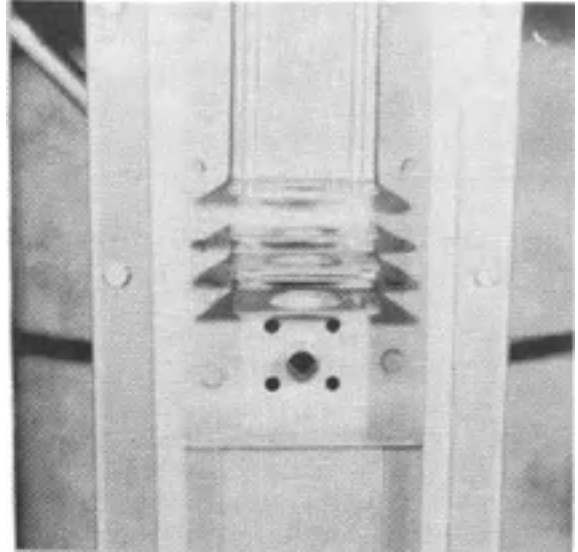

FIG.27
12. Remove the three (3) nuts securing rear block to top of fryer. Remove defective rear block.
14. Apply silicone sealant to entire base of new rear block and mount on fryer. Place lock washers on bolts and tighten the three (3) nuts securing rear block to fryer.
16. Place vent assembly on rear of fryer noting position of vent tube. Adjust vent tube **WITHOUT BENDING** matching end of tube with hole in vent assembly. Replace the four (4) screws securing vent assembly to rear of fryer. **NOTE:** Vent tube must protrude through vent assembly at least 1/2" (See Figure 27).